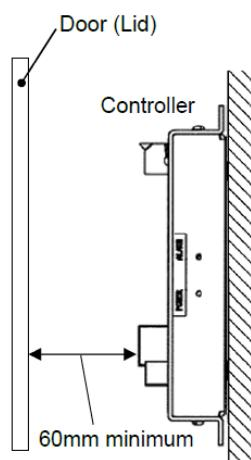

Figure 7
- Avoid mounting the controller near a vibration source, such as a large electromagnetic contactor or circuit breaker on the same panel. See Figure 7.